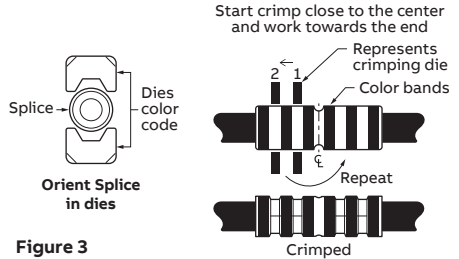

Figure 3
5. Refer to Table 1 (on reverse side) to select installing die and the number of compressions required for die connector combination. Insert connector in die and compress between markings beginning near the center of the connector and work towards the end, (Figure 3). **CAUTION: Use of improper installing dies may result in malfunctioning connection.**